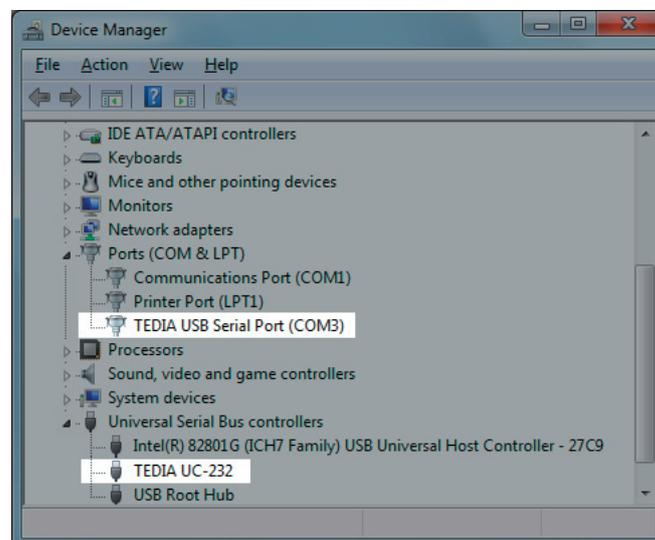

Fig. 16. Successfully Installed Driver under Device Manager.
9) Both the system driver and virtual COM port driver is now installed. You can verify the correct installation in the Device Manager under “Ports (COM & LPT)” and “Universal Serial Bus Controllers” sections (see Figure 16). The device is now ready to use on COM3.